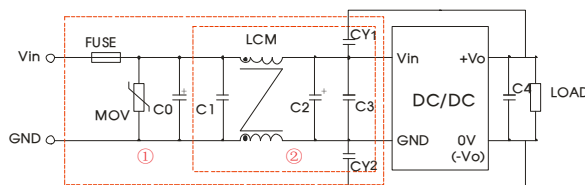

Fig. 3
Notes: For EMC tests we use Part ① in Fig. 3 for immunity and part ② for emissions test.